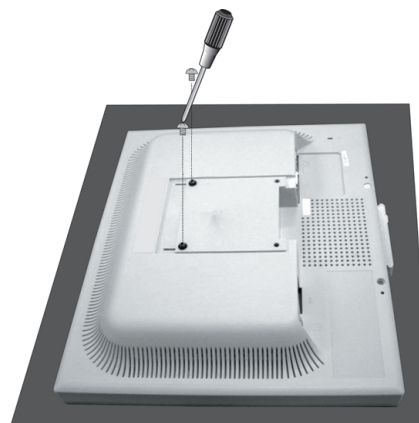

Figure S.4
6. Remove the 2 screws on the top of the monitor (**Figure S.4**). The monitor is now ready for mounting in an alternate manner.